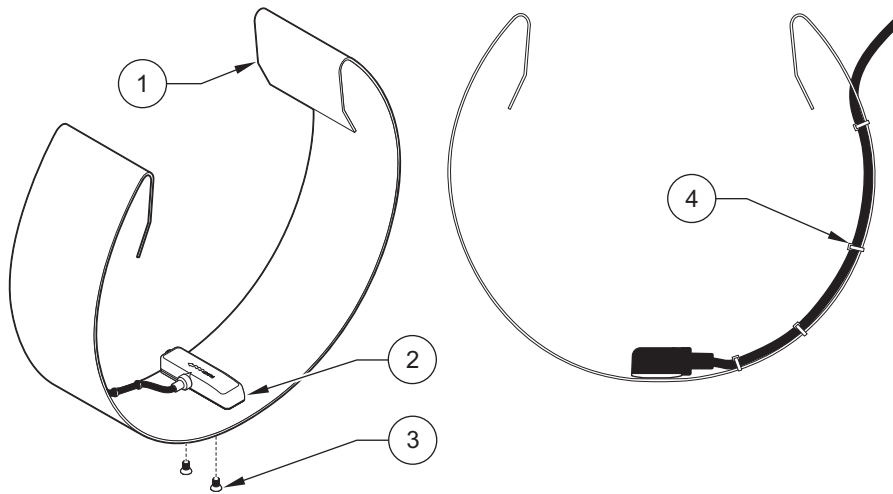

Figure 9 Attaching the Sensor to the Mounting Band
2. To reduce the likelihood of debris collecting on the cable and the mounting band, route the cable along the edge of the band and fasten the cable to the mounting band with nylon wire ties (Figure 9). The cable should exit the tied area at, or near the top of the pipe to keep it out of the flow stream.